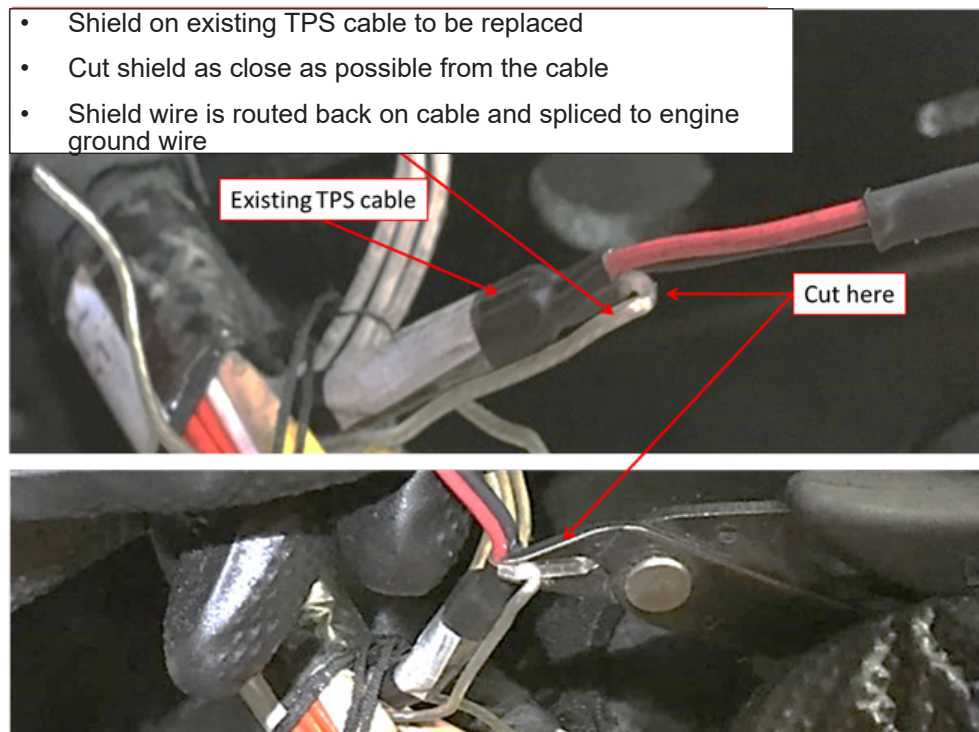

Figure 3 - Cut Shield Ground
- Shield wires on new bypass cable are too short to reach splice at TPS-1 wire 95-361 and TPS-2 wire 95-363. Cut shield ground as close as possible to insulation of cable being removed in order to save wire length. Refer to Figure 3.